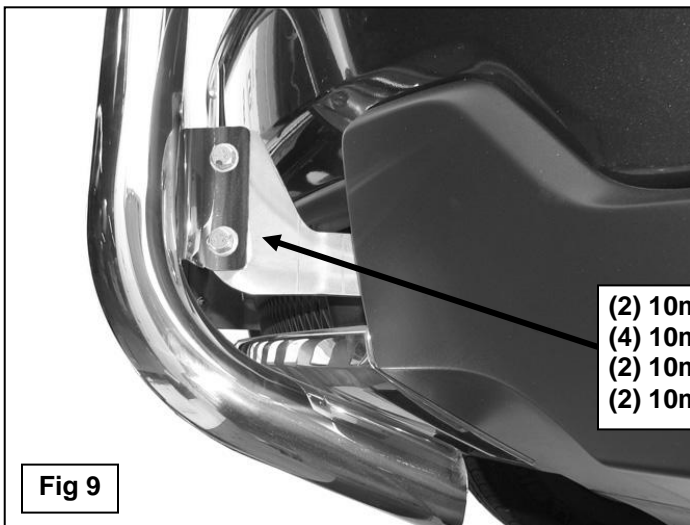

Fig 9
- With assistance, hold the Bull Bar up to the outside of the Mounting Brackets. Attach the Bull Bar to the Mounting Brackets with the included (4) 10mm x 35mm Hex Bolts, (8) 10mm Flat Washers, (4) 10mm Lock Washers and (4) 10mm Hex Nuts, **(Figure 9)**.